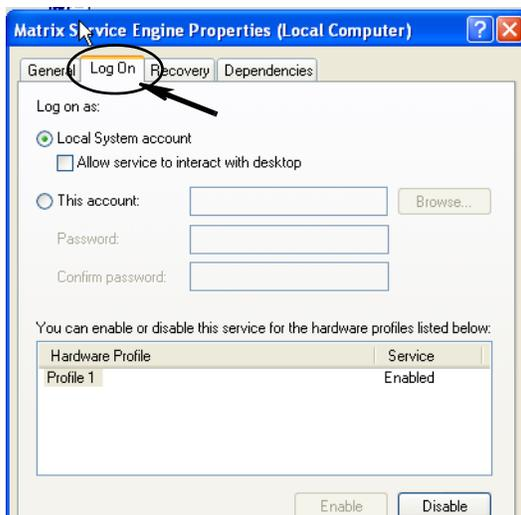

FIG. 38
- e. Select the Log On tab (FIG. 38).